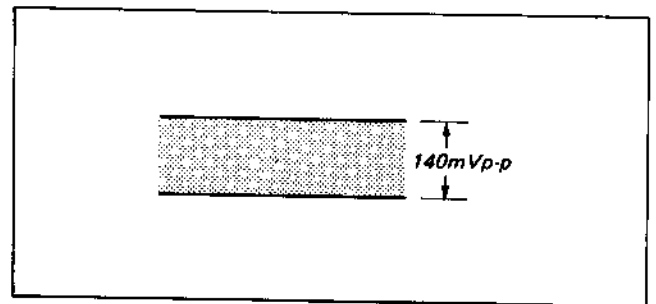

Fig. 4-48. Record current frequency characteristic adjustment
- (1) Set up the no-signal input state and set up the RECORD mode.
- (2) Connect the oscilloscope to pin 2 of CN8006 (Signal) and the GND probe to pin 1 of CN8006 (REC 12V).
- (3) Adjust RV5 for a signal level of 140 mVp-p. (See Fig. 4-48).